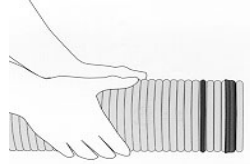

Figure 24
1. Make certain the elastomeric gasket is seated in the second corrugation on 4" conduit and the first corrugation on 6" conduit. Be sure the gasket is positioned as shown on Figure 24.